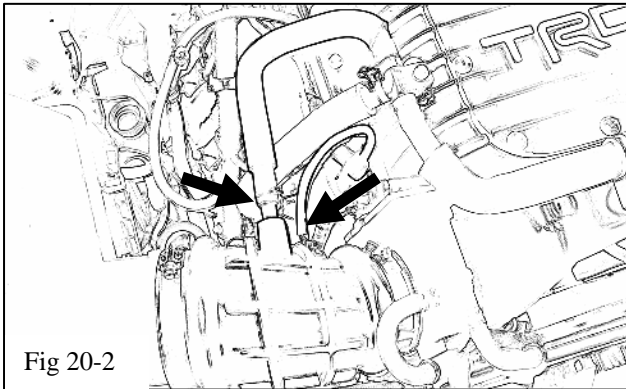

Fig 20-2
- (d) Connect the vent hose and fuel pressure regulator hose to the air inlet bellows (Fig 20-2).